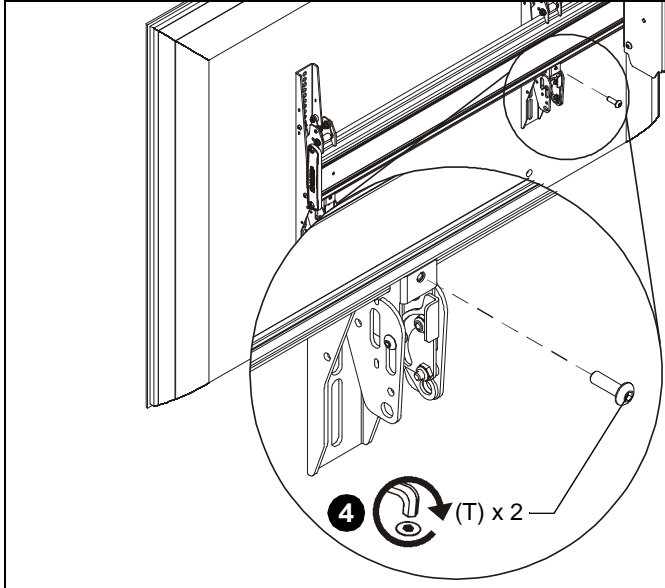

Figure 15
4. Fasten bracket against mounting rail using one 10-24 x 5/8" button head cap screw (T). (See Figure 15)